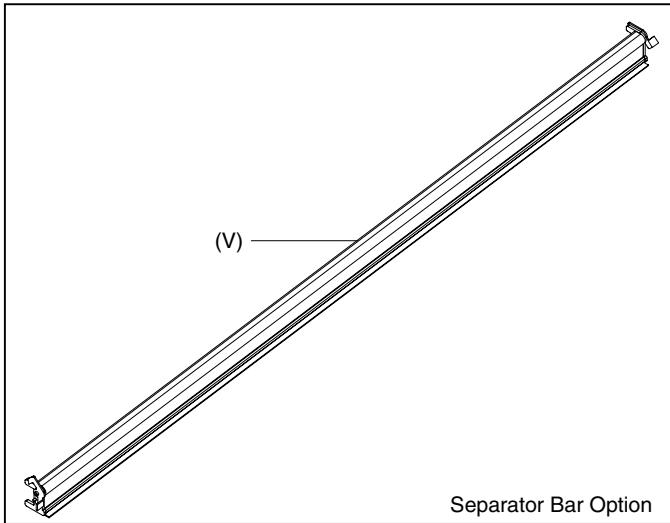

Fig. 21
**V. SEPARATOR BAR OPTION:** (Figure 21) Required if running Accushield® material.